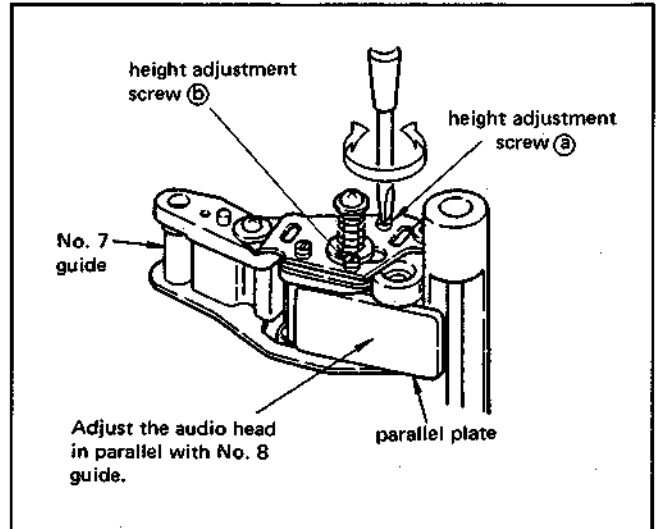
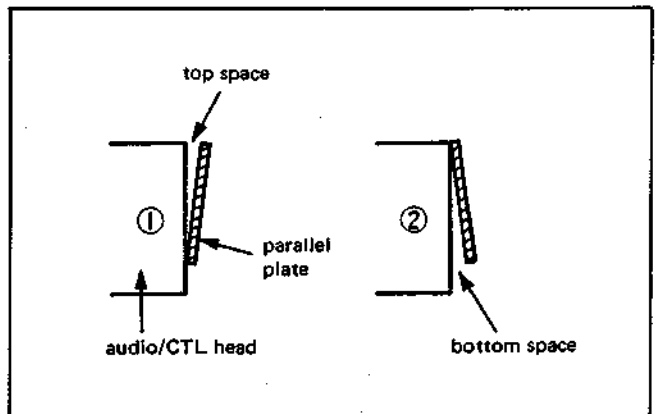

Fig. 4-28
Fig. 4-29
- 1) Place the parallel plate SL-0657 on No. 5 guide and audio/CTL head. (Fig. 4-28)
If there is space at the top (Fig. 4-29 ①), adjust by turning the height adjustment screw ② counterclockwise. (Fig. 4-28)
If there is space at the bottom (Fig. 4-29 ②), adjust by turning the height adjustment screw ② clockwise.